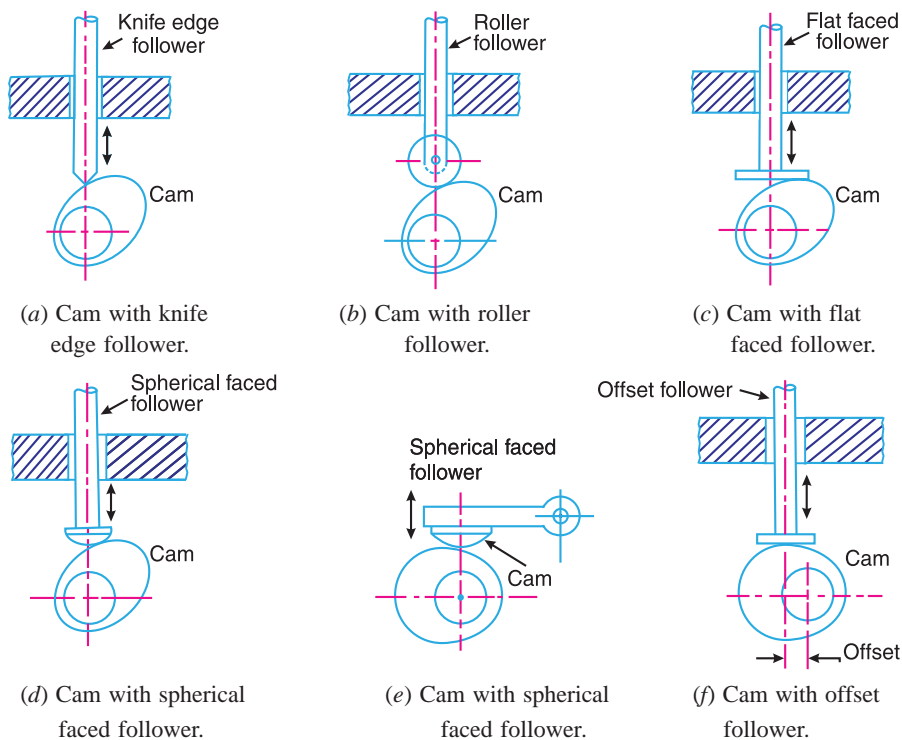

Fig. 20.1. Classification of followers.
- (a) **Knife edge follower.** When the contacting end of the follower has a sharp knife edge, it is called a knife edge follower, as shown in Fig. 20.1 (a). The sliding motion takes place between the contacting surfaces (*i.e.* the knife edge and the cam surface). It is seldom used in practice because the small area of contacting surface results in excessive wear. In knife edge followers, a considerable side thrust exists between the follower and the guide.
(b) **Roller follower.** When the contacting end of the follower is a roller, it is called a roller follower, as shown in Fig. 20.1 (b). Since the rolling motion takes place between the contacting surfaces (*i.e.* the roller and the cam), therefore the rate of wear is greatly reduced. In roller followers also the side thrust exists between the follower and the guide. The roller followers are extensively used where more space is available such as in stationary gas and oil engines and aircraft engines.
(c) **Flat faced or mushroom follower.** When the contacting end of the follower is a perfectly flat face, it is called a flat-faced follower, as shown in Fig. 20.1 (c). It may be noted that the side thrust between the follower and the guide is much reduced in case of flat faced followers. The only side thrust is due to friction between the contact surfaces of the follower and the cam. The relative motion between these surfaces is largely of sliding nature but wear may be reduced by off-setting the axis of the follower, as shown in Fig. 20.1 (f) so that when the cam rotates, the follower also rotates about its own axis. The flat faced followers are generally used where space is limited such as in cams which operate the valves of automobile engines.
(d) **Spherical faced follower.** When the contacting end of the follower is of spherical shape, it is called a spherical faced follower, as shown in Fig. 20.1 (d). It may be noted that when a flat-faced follower is used in automobile engines, high surface stresses are produced. In order to minimise these stresses, the flat end of the follower is machined to a spherical shape.
(a) **Reciprocating or translating follower.** When the follower reciprocates in guides as the cam rotates uniformly, it is known as reciprocating or translating follower. The followers as shown in Fig. 20.1 (a) to (d) are all reciprocating or translating followers.
(b) **Oscillating or rotating follower.** When the uniform rotary motion of the cam is converted into predetermined oscillatory motion of the follower, it is called oscillating or rotating follower. The follower, as shown in Fig. 20.1 (e), is an oscillating or rotating follower.
(a) **Radial follower.** When the motion of the follower is along an axis passing through the centre of the cam, it is known as radial follower. The followers, as shown in Fig. 20.1 (a) to (e), are all radial followers.
(b) **Off-set follower.** When the motion of the follower is along an axis away from the axis of the cam centre, it is called off-set follower. The follower, as shown in Fig. 20.1 (f), is an off-set follower.
1. **Radial or disc cam.** In radial cams, the follower reciprocates or oscillates in a direction perpendicular to the cam axis. The cams as shown in Fig. 20.1 are all radial cams.